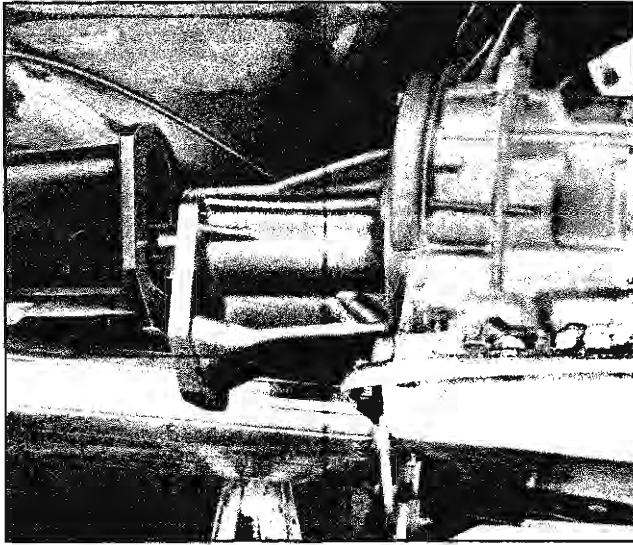

Fig. 4-26 Separating Trans-Axle from Torque Tube
16. Separate trans-axle assembly from torque tube and propeller shaft (Fig. 4-26).